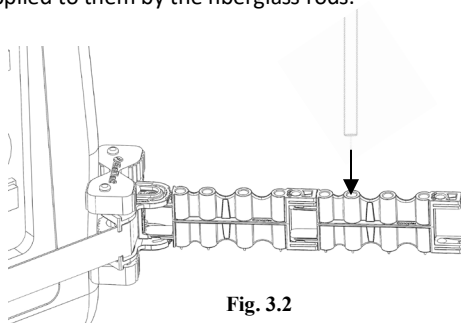

Fig. 3.2
- c. Insert the other end of the frame rod fully into the corresponding Extender Arm hole at the pre-measured locations (Fig 3.2)
- f. Check the Extender Arms; the Frame Rods should be fully seated into the Frame Rod holes. (Fig. 3.2) The Extender Arms will exhibit a slight upward lean; this is due to the force being applied to them by the fiberglass rods.